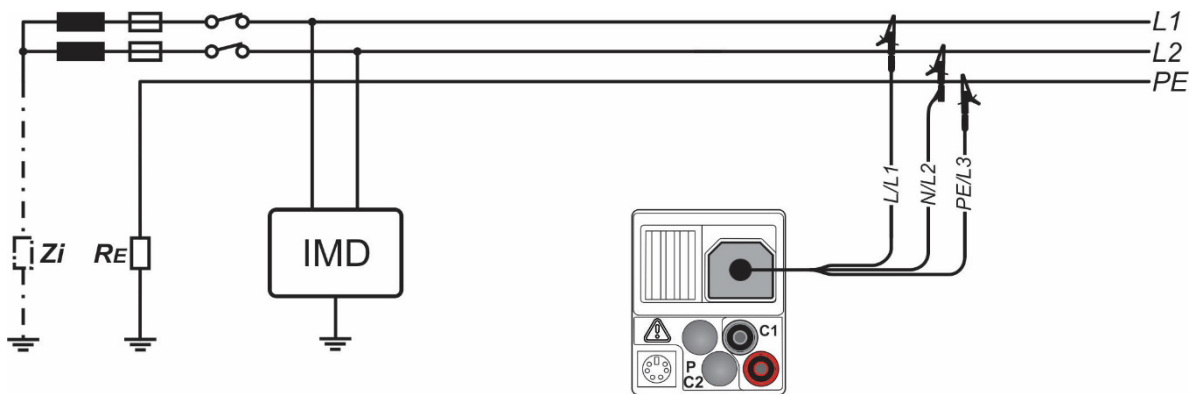

Figure 5.42: Connection of the three-wire test cable - Figure using the IT 130 as an example
- Connect the test cables to the test object (see figure 5.42 and 5.43).